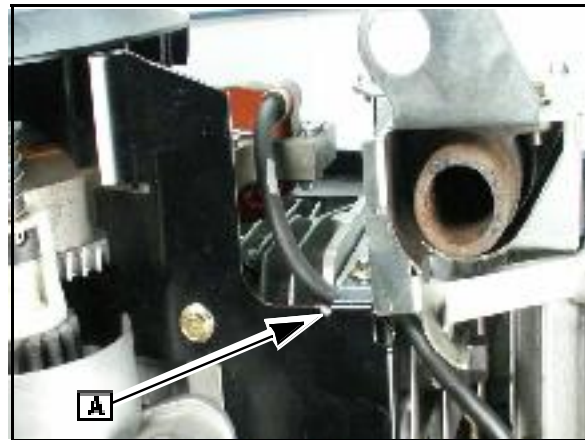

Fig. 45
13. Install the exhaust system. **See SECTION 4- EXHAUST SYSTEMS.** Route the spark plug wire as shown in ([A] Fig. 45).